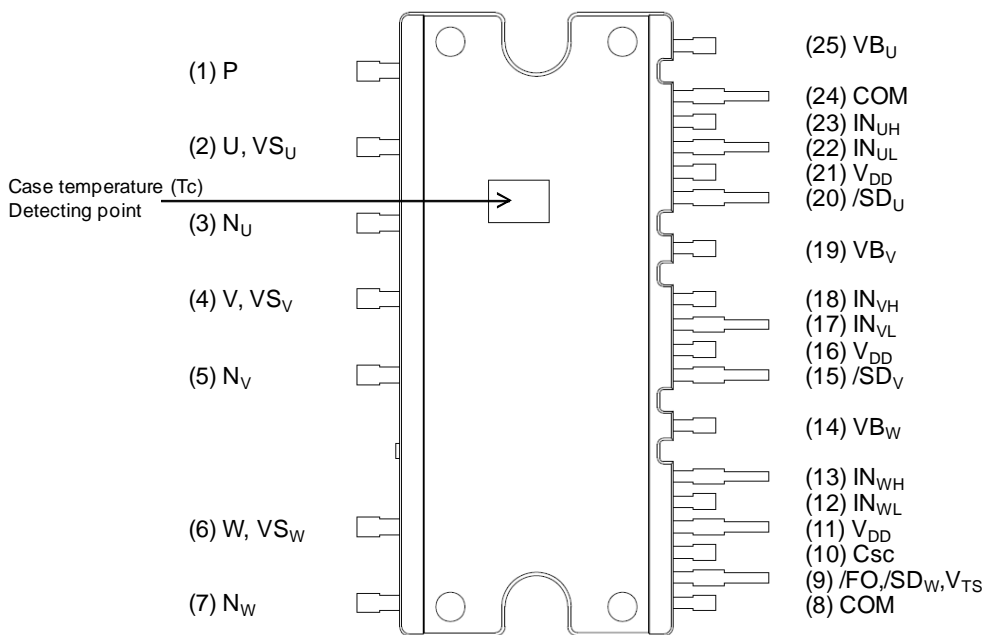

Figure 2. Top View
4. For the measurement point of case temperature (T_C), please refer to Figure 2.